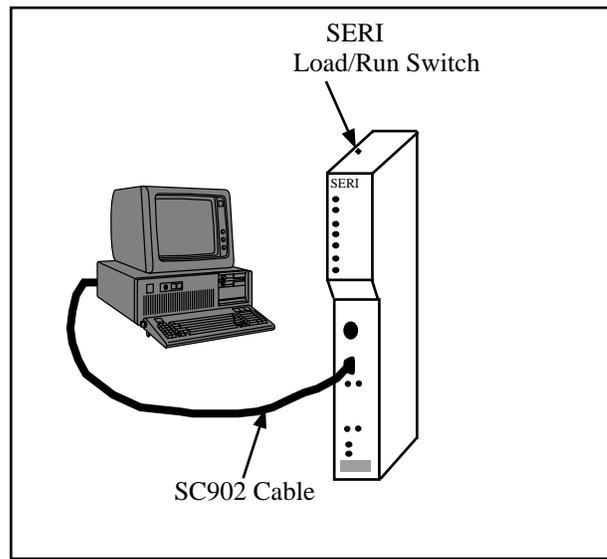

Figure 2-1 SERI Firmware Download
- 3 Locate the Load/Normal toggle switch on the top of the SERI. (See Figure 2-1) Move this switch to the LOAD position. Install the SERI back into the register rack.